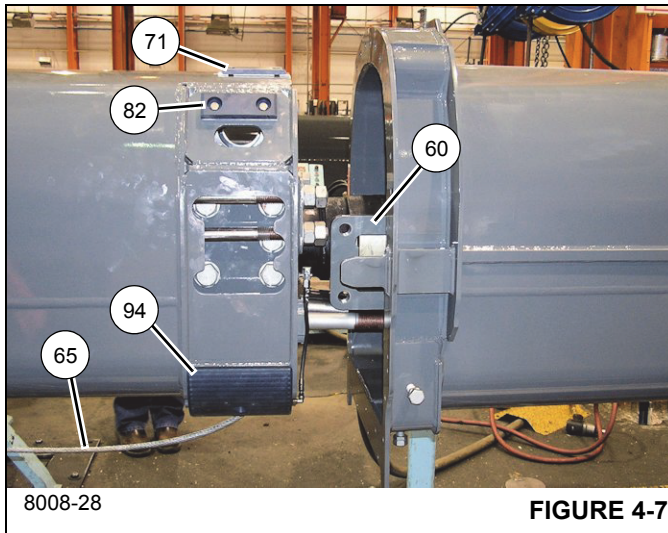

FIGURE 4-7
29. Slightly lower the front of tele 2 (3).
30. Remove the two bolts (58), four washers (16), two lock washers (17), and two nuts (18) securing the stop block (56) and shim (57) to the front of tele 1 (2) (left and right sides).
31. Remove the bolts (19), flat washers (16), lock washers (17), and nuts (18) securing the left, right, and bottom keeper plates (2x-14, 13) to the front of tele 1 (2).
32. Remove the front lower wear pads (54, 55) and shims (53) from the bottom of tele 1 (2).
33. Remove tele 2 (3) from tele 1 (2); set tele 2 (3) on adequate supports.
34. Remove the wear pad (94)/grease hose assembly (81, 79, 80, 77, 78) from the attaching bracket on each side of the rear of tele 2 (3) (see Figure 4-7).
35. Remove the two capscrews (83) and lock washers (72) securing the wear pad assembly (71) to each side of the bottom rear of tele 2 (3) (see Figure 4-7).
36. Remove the two capscrews (83) securing the wear pad assembly (82) to each side of the bottom rear of tele 2 (3) (see Figure 4-7).